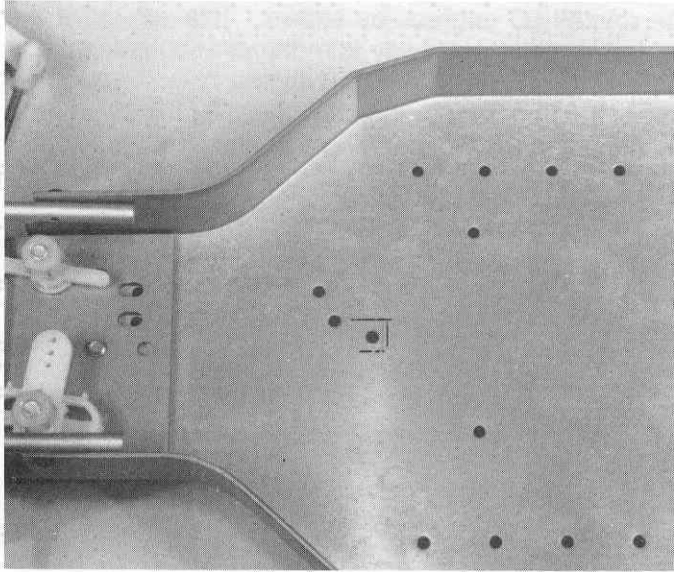

Fig. 148
□ **Fig. 148** Center punch the mark and drill the chassis with a 1/8" (3.1mm) drill. Countersink the hole on the bottom of the chassis if possible. You can use a large (approx. 3/8") drill and turn it by hand to do the countersinking.